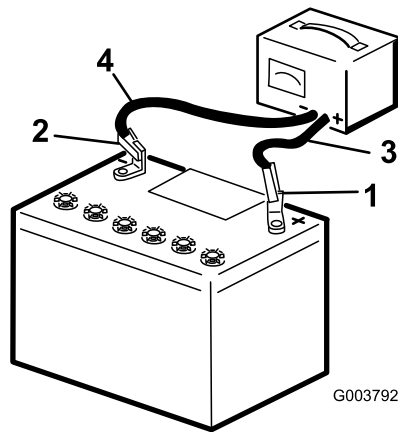

Figure 59
2. Charge the battery for 4 to 8 hours at a rate of 3 to 4 A (Figure 59). Do not overcharge the battery.
- When the battery is fully charged, unplug the charger from the electrical outlet, then disconnect the charger leads from the battery posts (Figure 59).